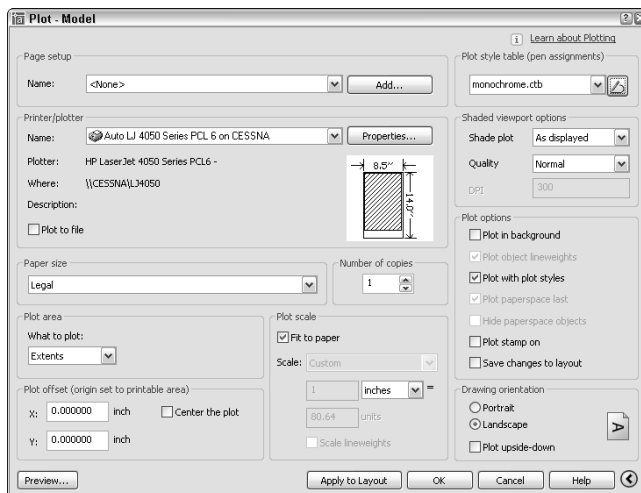

Figure 12-3:
The Plot dialog box reveals additional settings, as shown in Figure 12-3.
- 12. In the Plot Options area, make sure that the Plot with Plot Styles check box is selected and that the Save Changes to Layout check box is deselected, as shown in Figure 12-3.**